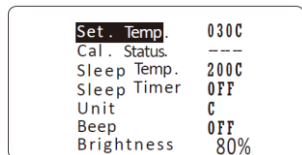

Fig.5
6.3.1. When Cal. status display “----”(see Fig 5), it means temperature have not calibration.